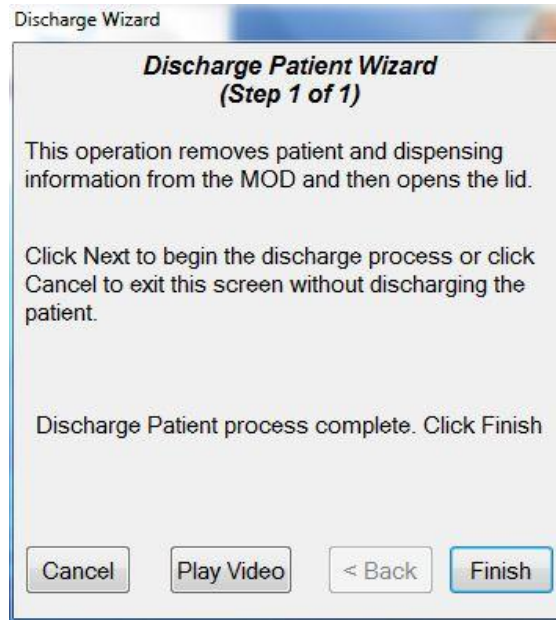

Figure 27: Discharge Patient Confirmation window
5. After removing the medication tray, select FINISH and close the top of the device (Figure 27). If you fail to open the MOD[®] cover after selecting NEXT and FINISH (completing the Discharge) the cover can be opened by pressing zero without the need of the MOD[®] Nurse Card.